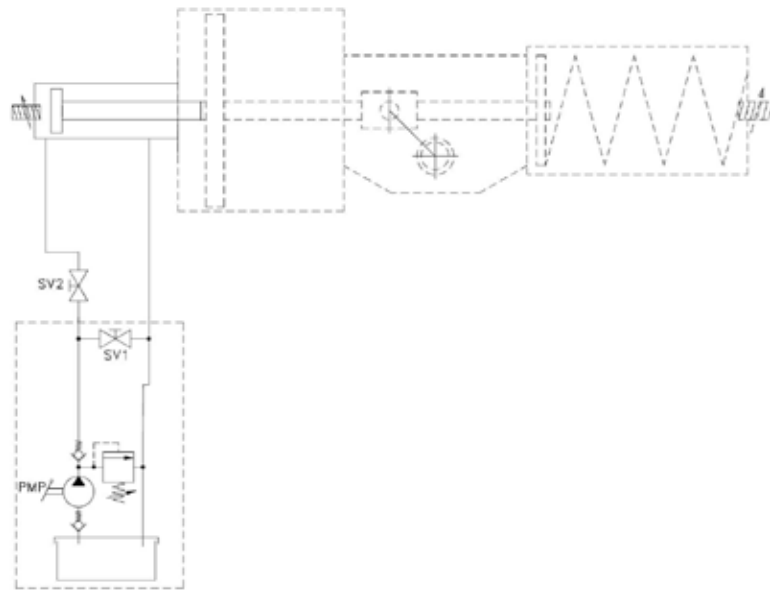
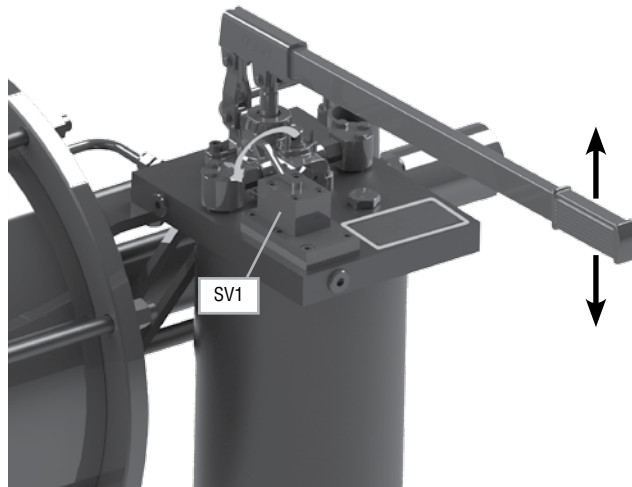

Figure 12 – Hydraulic Diagram LPS Single-Acting Actuator with Hydraulic Override
Figure 13 – Details of Hydraulic Hand Pump Manual Override for Single-Acting Actuator
- 3.1.2.1.2 Referring to the schematic diagram (Figure 12), switch the manual stop valve SV1 in "MANUAL" position, as shown in the nameplate located close to the manual isolation valve (Figure 13).
- 3.1.2.1.4 To compress the spring, operate the PMP manual hand pump, acting on the lever (Figure 13).
- 3.1.2.1.6 To release the spring from the compressed position, open the manual valve SV2 (if it is present) and switch slowly the manual stop valve SV1 in "AUTOMATIC" position, as shown in the nameplate located nearby (Figure 13).
- 3.1.2.2.1 Open, and keep open the manual stop valve SV2 (if it is installed), and switch slowly the SV1 manual stop valve in "AUTOMATIC" position, as shown in the nameplate located nearby (Figure 13).